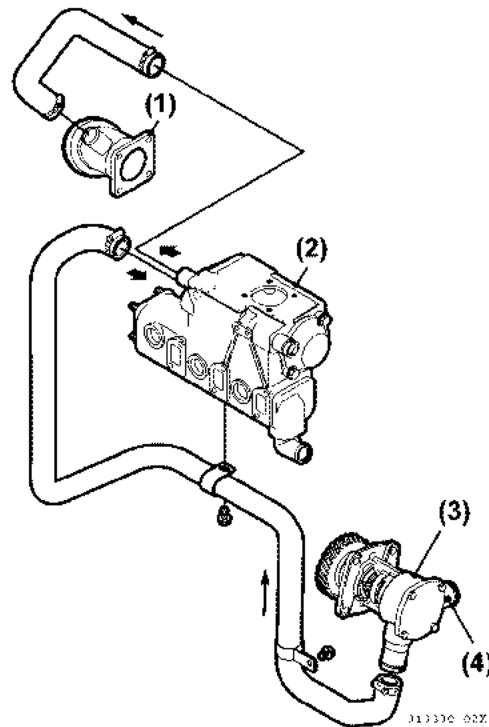

**Figure 5-175**
50. Attach the noise absorber to the rocker arm cover before assembling the heat exchanger for 4JH5E (**Figure 5-174**), and the 3JH5E is similar. For the 4JH4-TE and 4JH4-HTE, see **Figure 5-175**.